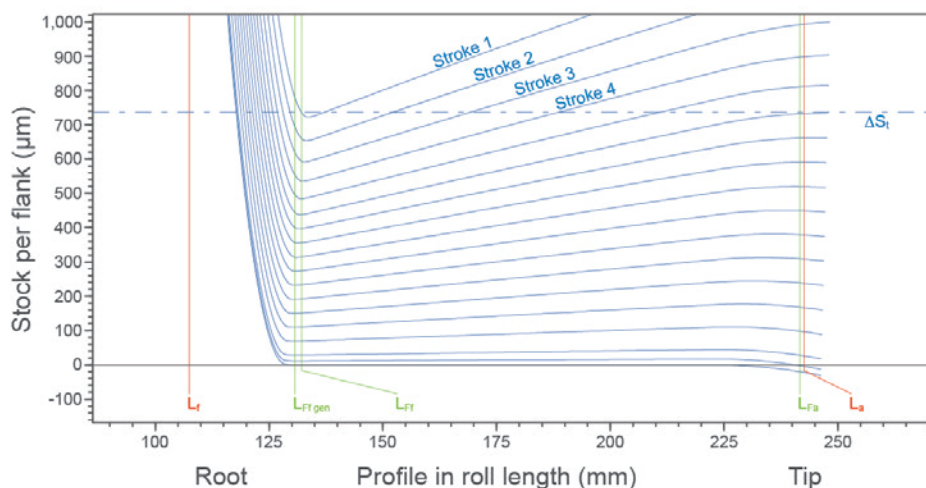

Figure 5—Material removal for all passes with a degressive infeed strategy.
that the conventional strategy requires seven strokes before full contact along the entire tooth profile is achieved. With the degressive strategy (Figure 5), full contact occurs after five strokes, while with the A(X) infeed strategy (Figure 6), full contact is achieved starting with the second stroke. The diagrams further illustrate how closely the grinding wheel profile conforms to the tooth gap geometry when using the A(X) infeed strategy, as indicated by nearly parallel material removal curves across successive strokes.